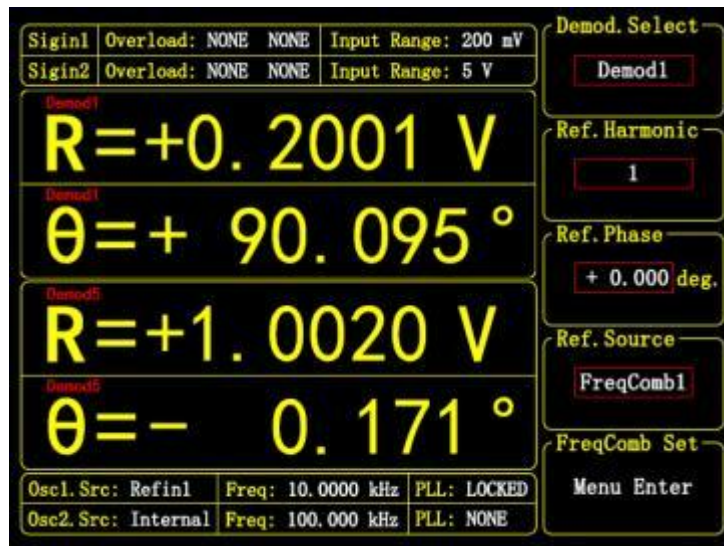

Figure 52. <FreqComb> Pattern Interface
- <FreqComb1>: Set the reference source of the current demodulator to frequency synthesis demodulation. The interface for this mode is shown in Figure 52. You can click <Menu Enter> to access the secondary menu and configure the frequency synthesis formula. The frequency synthesis mode supports 4 channels <FreqComb 1> to <FreqComb4>, independent of the demodulator channels. Each demodulator can either be configured individually or share the same <FreqComb> channel.